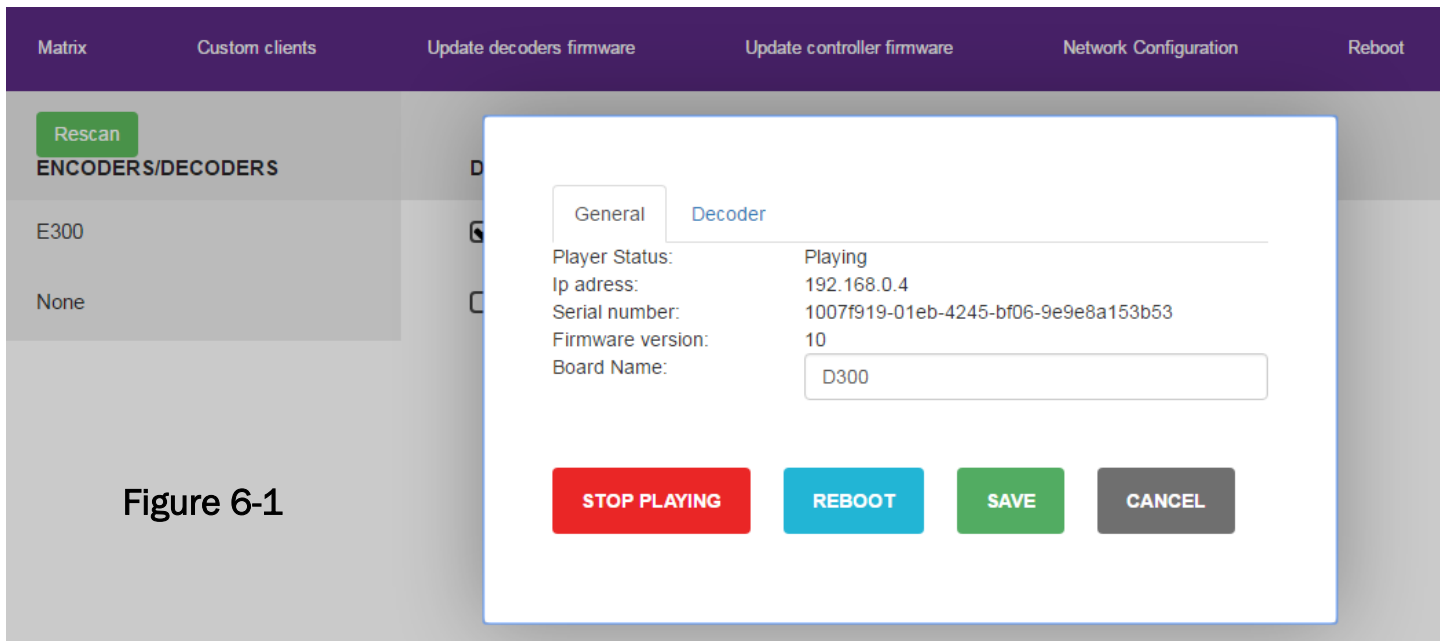

Figure 6-1
3. For convenience if you place your mouse cursor over the name of an encoder or decoder and left click a window for that device will open. Under the General tab there is a field titled “Board Name:” You can name the device here with something helpful in identifying the location or video stream like “Lobby” or “Front dining area”. See Figure 6-1.